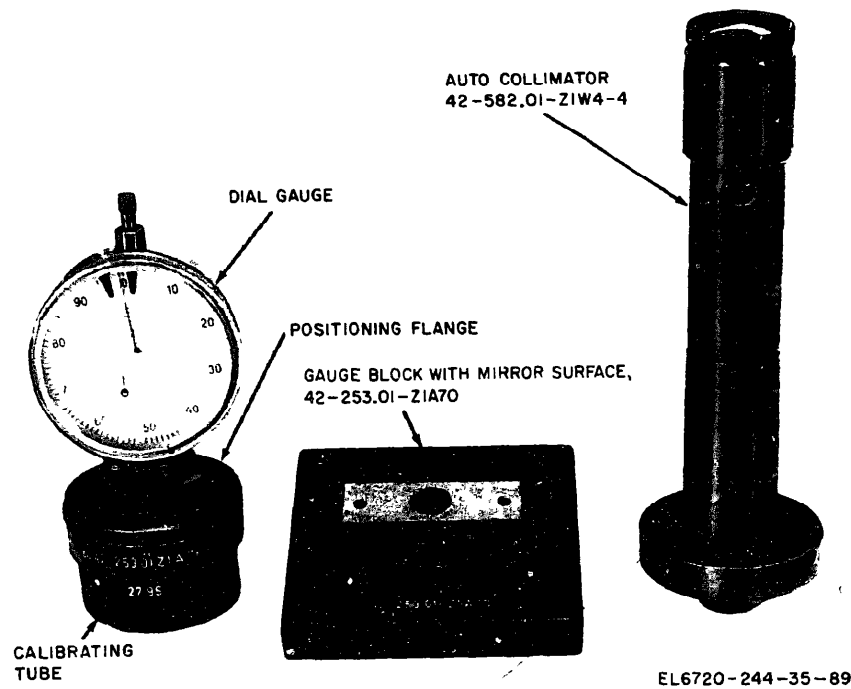

Figure 6-10. Gauge set 42-258.01-Z1A76 and auto collimator 42-582.01-21W4-4.
b. *Test Equipment (fig. 6-10).* The measurement requires the use of the following test equipment :
(1) Auto collimator 42-582.01-Z1W4-4 (fig. 6-10).
(3) Gauge block with mirror surface 42-253.01-Z1A70 (fig. 6-10).